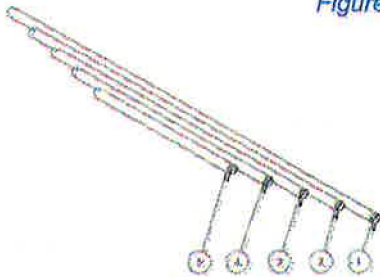

Figure 3 Item No. 4 Expanded View
- 2) Using the width measurement of your press (A), select the correct center rod (Figure 3. Item No. 4-1, 4-2, 4-3, 4-4, & 4-5).